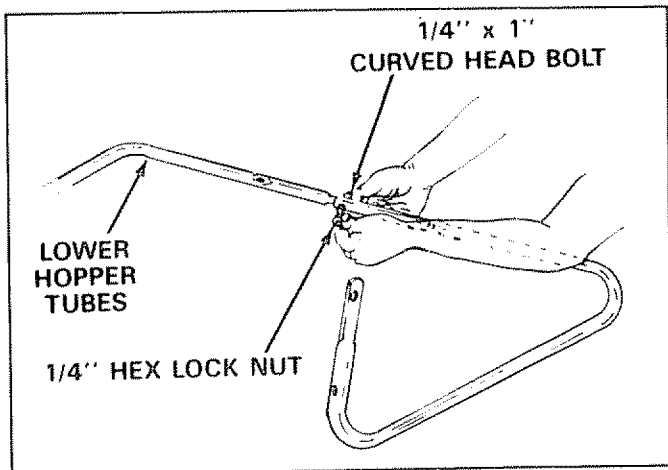

FIGURE 14
- Assemble the two lower hopper tubes as shown in figure 14. Secure with 1/4" x 1" curved head bolt and 1/4" hex lock nut. See figure 14.